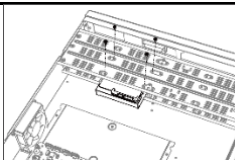

Figure 2-5 Fix HDD
Step 2 Fix the HDD on the bracket with screws. Refer to Figure 2-5.